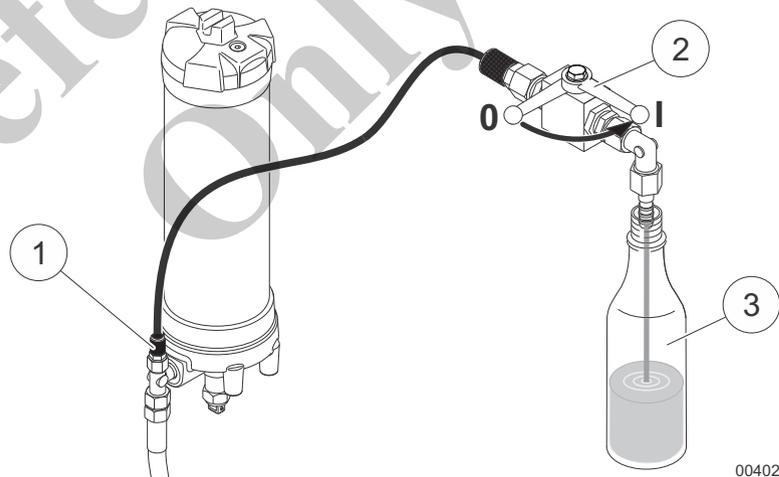

Fig. 245 Draining flushing oil
| 4 | Remove the protective cap from the measurement connection (1) in Fig. 245. |
| 5 | Connect the device for removing hydraulic oil samples (2) in Fig. 245 to the measurement connection (1) in Fig. 245 and drain around 0.25 l hydraulic oil into an empty container (3) in Fig. 245. |